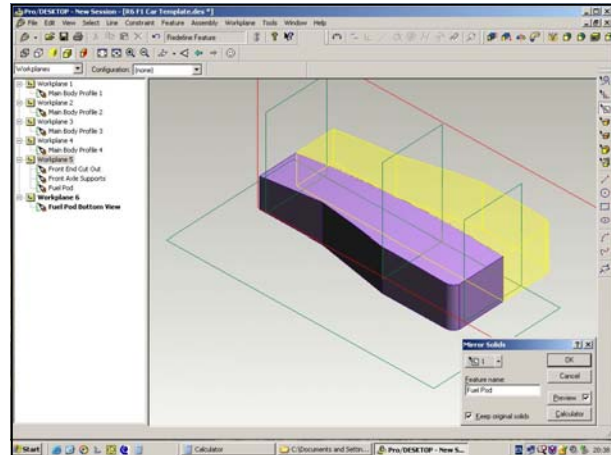

Figure 7 - Mirrored Fuel Pod Preview
- 9) In the Mirror Solids window, change the Feature Name to **Fuel Pod** and make sure Keep original solid is checked. Left Click on Workplane 5. (This is to select the mirror plan) Your model should now look like the one in Figure 7. Press OK.